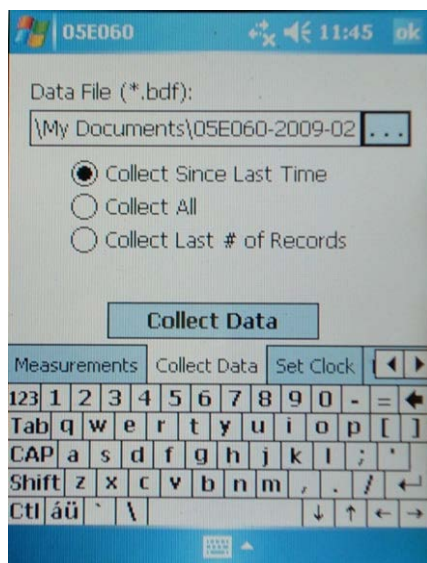

Figure 11: PConnectCE “Collect Data” screen.
- 6.2.6.3 Click on the “Collect Data” tab near the bottom of the Measurements screen. The Collect Data screen will appear giving the last filename used for data collected from this station and offering three options for what data is to be collected from the logger. See Figure 11.